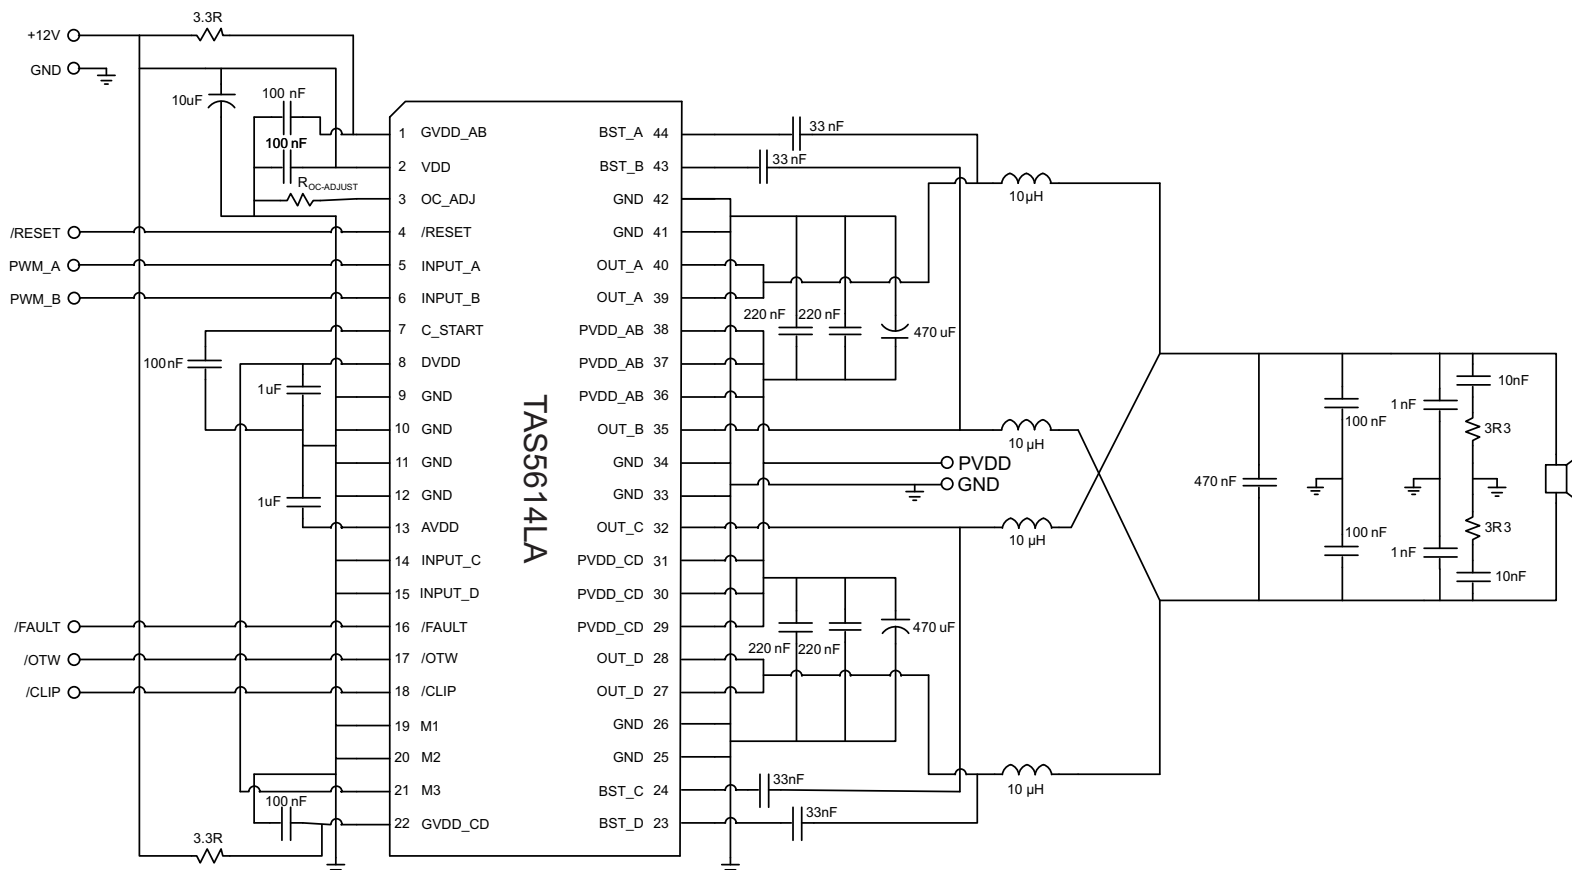

图 22. Typical Differential (2N) PBTL Application With AD Modulation Filter
See 图 22 for application schematic. In this application, one differential PWM input is used with AD modulation from the PWM modulator such as the TAS5558. AD modulation scheme is defined as PWM(+) is opposite polarity from PWM(-). The output PBTl configuration is often used to drive lower impedance load such as a subwoofer.
- Pins 27, 28, 32, 35, 39, 40 - Output pins from half-bridges A, B, C, and D. Connect appropriate bootstrap capacitors and differential LC filter as shown in 图 22.
- Pins 29, 30, 31, 36, 37, 38 - Power supply pins to half-bridges A, B, C, and D. A and B form a full-bridge and C and D form another full-bridge. A 470-uF bulk cap is recommended for each full-bridge power pins. Two 0.22-μF decoupling capacitors are placed on each full-bridge power pins. See 图 22 for details.